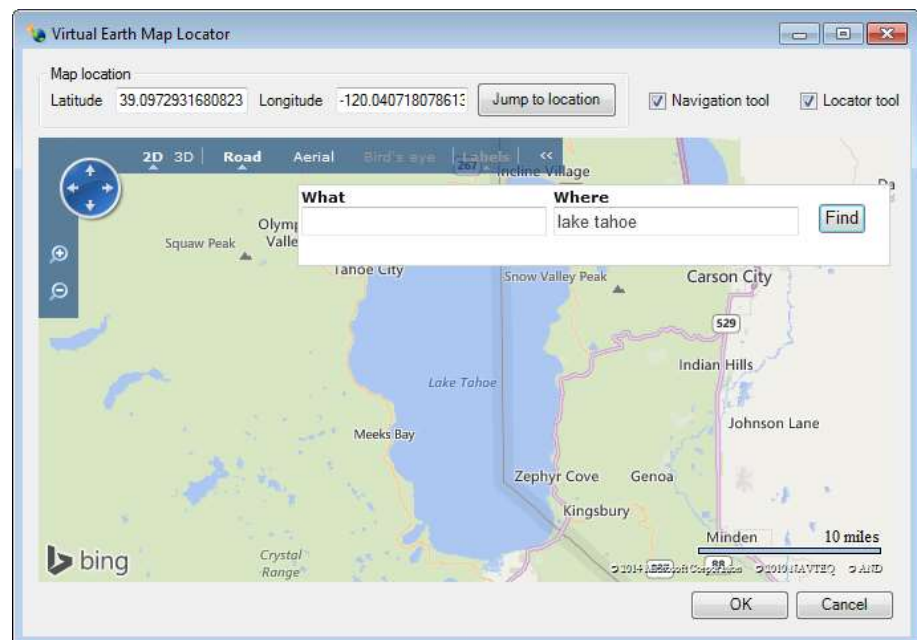

Figure 13 Virtual Earth Map Locator dialog
4. In the *Where* field, type "Lake Tahoe" and click **Find**. After a moment, Lake Tahoe will appear in the center of the *Virtual Earth Map Locator* dialog (Figure 13).